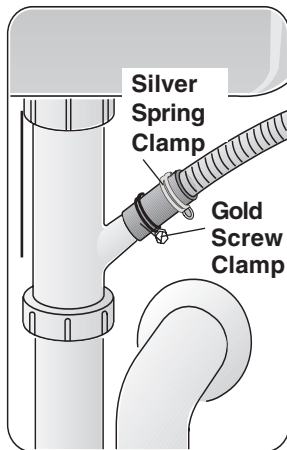

Figure 22
- 1 Directly to the undersink dishwasher drain connection, as shown in **Figure 22**.